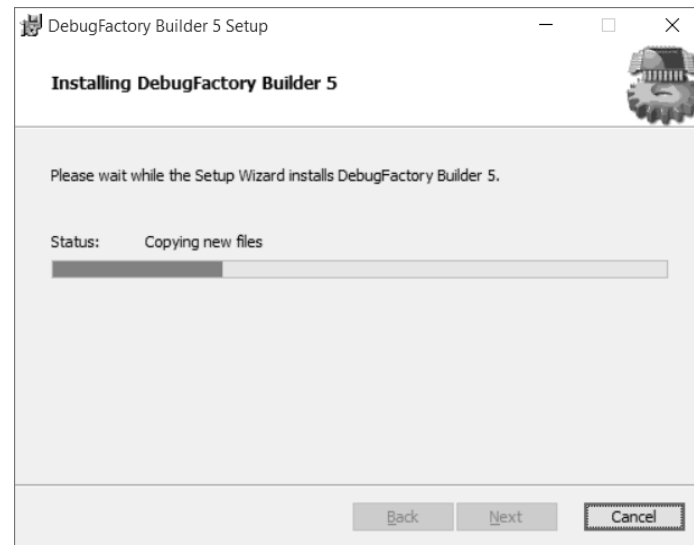

Figure 1.1.6 During installing of DebugFactory Builder 5
6. The dialog shown in Figure 1.1.6 appears. Wait while DebugFactory Builder 5 installs.